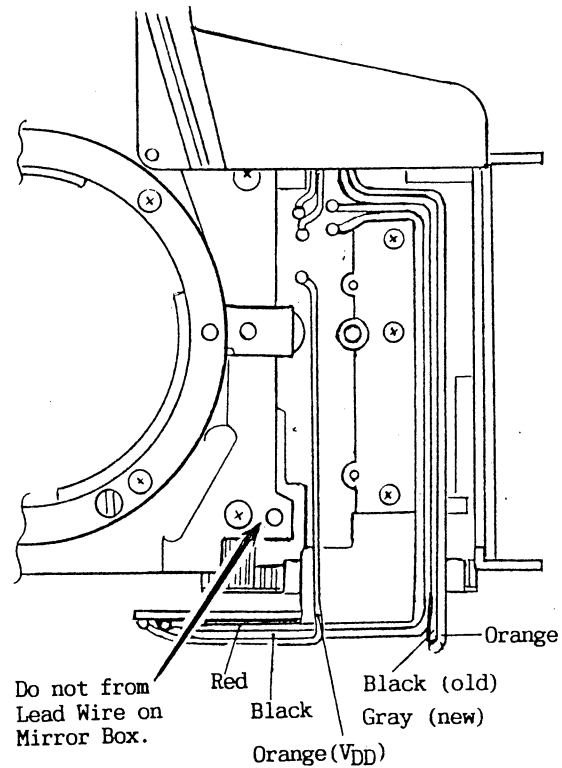

Fig.94
- 1) Form the Red and Black Lead Wires (AF-FPC — Flash Base) for power as shown in Fig.94.
- 2 Form the Orange and Black (old)/ Gray (new) Lead Wires (Flash FPC — Flash Base) as shown in Fig.94.